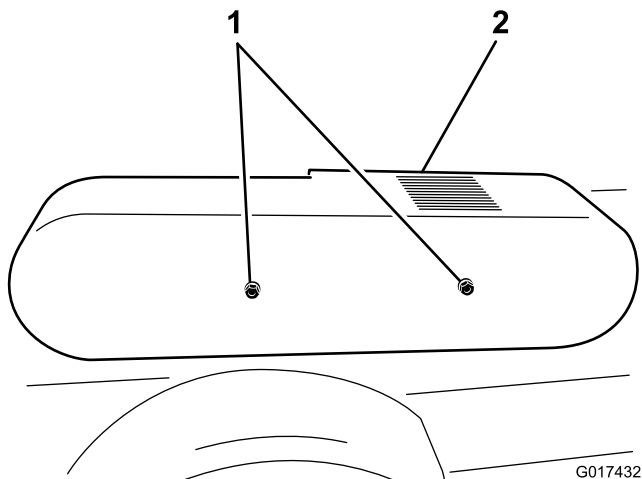

Figure 16
2. Remove the belt guard (Figure 16).